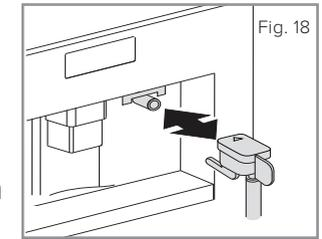

Fig. 18
6. Remove the hot water spout and attach the milk container nozzle (Fig. 18 & 19)
8. Press the 'Cappuccino' touch key (12). 'CAPPUCCINO' appears on the display